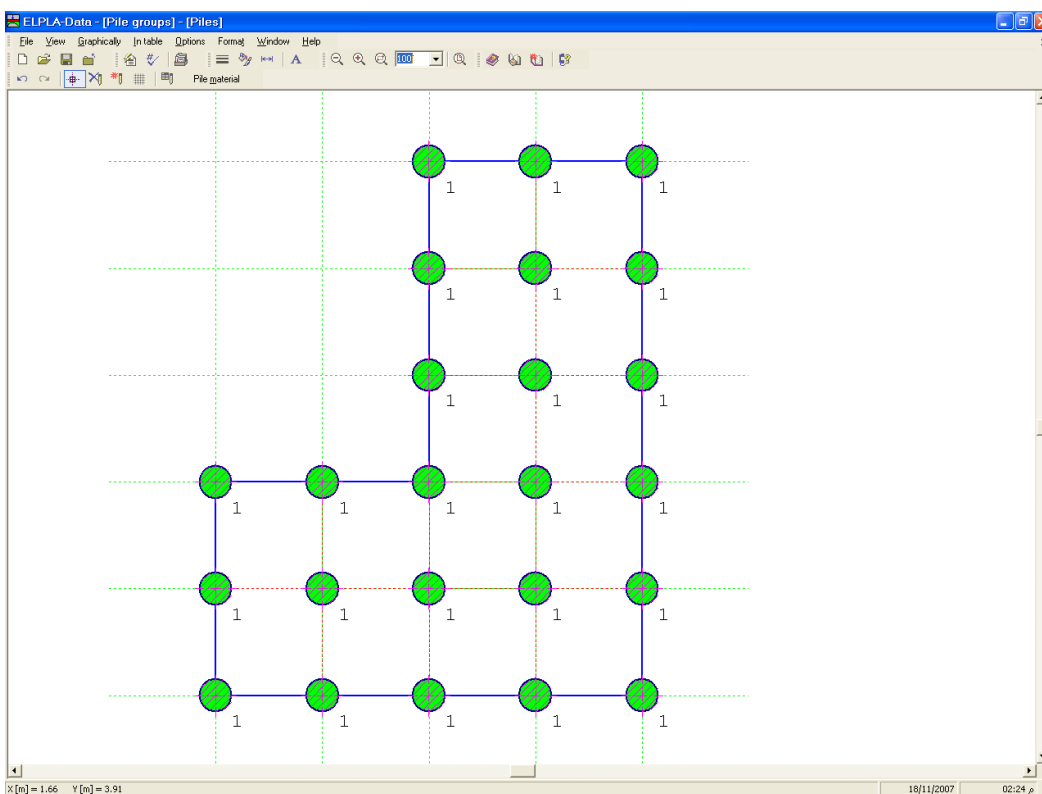

Figure 11-21 Piles on the screen
After you have completed the definition of the piles, the screen should look like the following Figure 11-21.
- Choose "Save piles" command from "File" menu in Figure 11-21 to save the data of piles
- Choose "Close piles" command from "File" menu in Figure 11-21 to close the *ELPLA-Piles* sub program and to return to the main window of *ELPLA-Data*